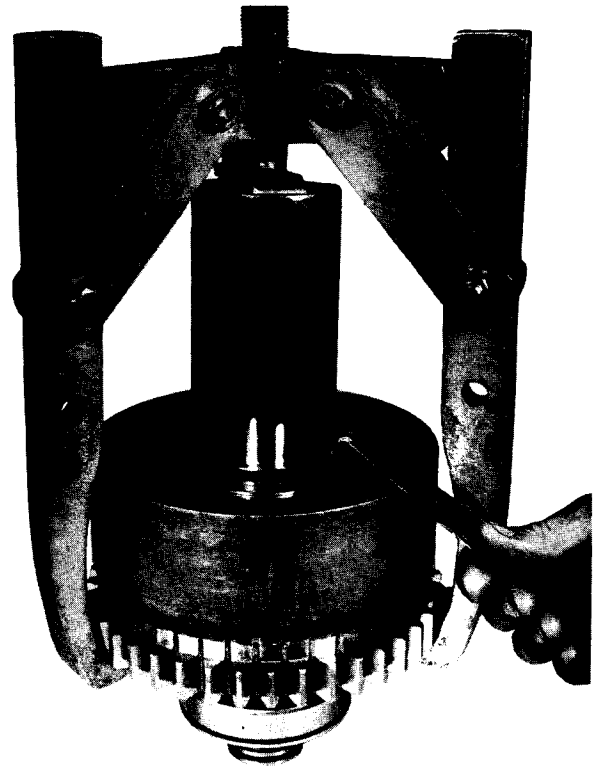

Fig. 20
6. Compress spring and washers as shown in Fig. 20 and install washer retaining ring.